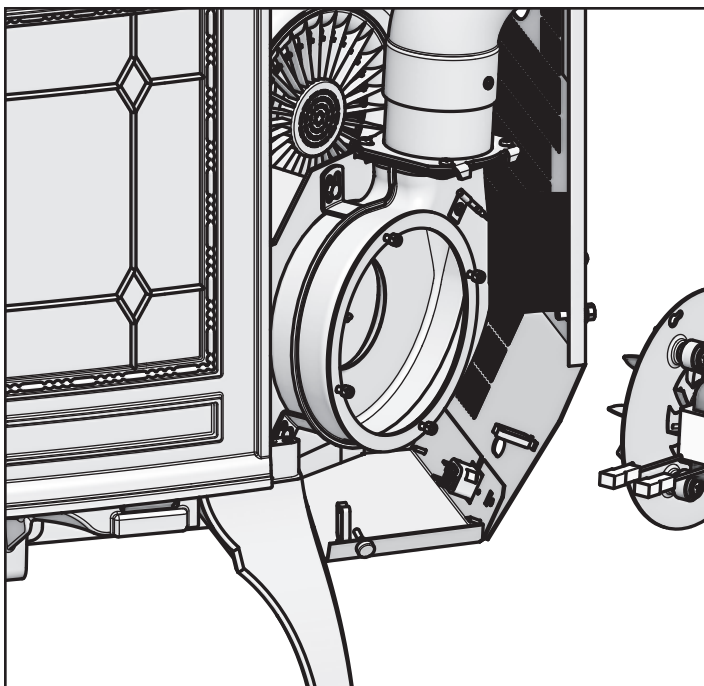

Figure 23.1
2. Remove the right side panel by loosening the 2 screws using a Phillips head screw driver or wrench. **Figure 23.1.**